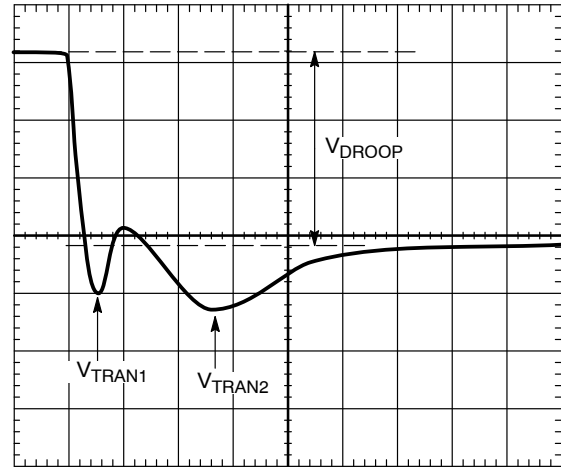

Figure 15. Transient Setting Waveform
- With the dynamic load still set at the maximum step size, expand the scope time scale to either 2  $\mu\text{s}/\text{div}$  or 5  $\mu\text{s}/\text{div}$ . The waveform can have two overshoots and one minor undershoot (see Figure 15). Here,  $V_{DROOP}$  is the final desired value.